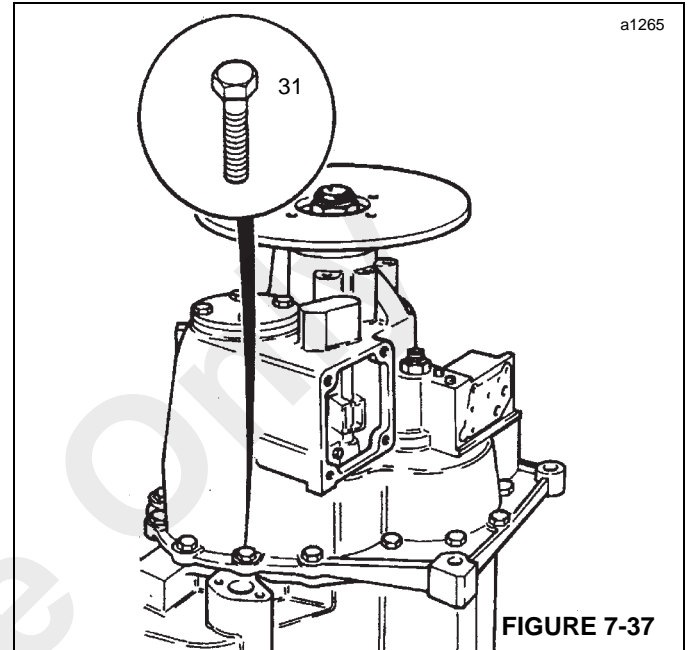

FIGURE 7-37
- 31. Carefully, lower output end casing into position. Apply Loctite 243 to bolts (31, Figure 7-37) and tighten to a torque of 56 Nm (42 lb-ft).